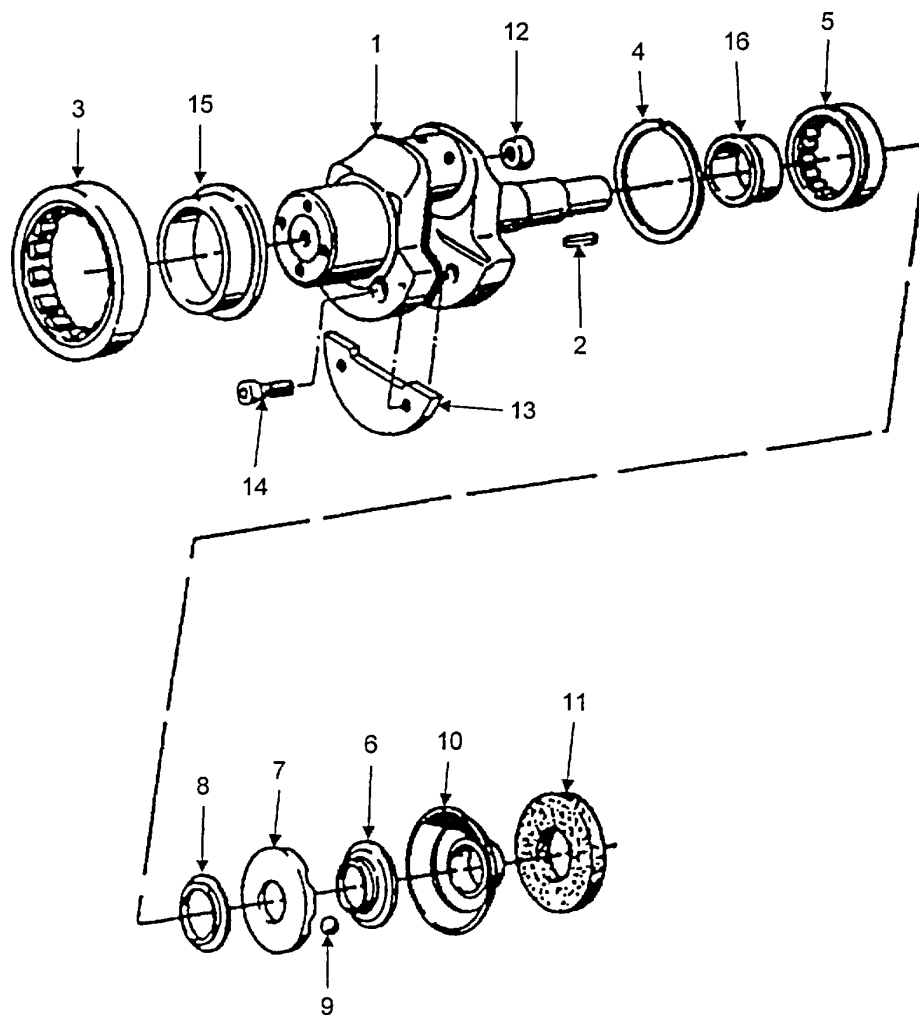

FIGURE 5-51. CRANKSHAFT
- a. Using an oven, heat crankcase to 175°F to 210°F (80°C to 100°C) Push out crankshaft (Figure 5-51, Item (1) and roller bearing outer race (3) Remove key (2).
- a. Install new cover (Figure 5-51, Item 12)
- b. Apply lubricating oil to the threads of two socket head cap screws (Figure 5-51, Item 14) and contact surface of counterweight (13). Install counterweight and two socket head cap screws. Torque socket head cap screws to 16 lb.-ft (22 Nm)